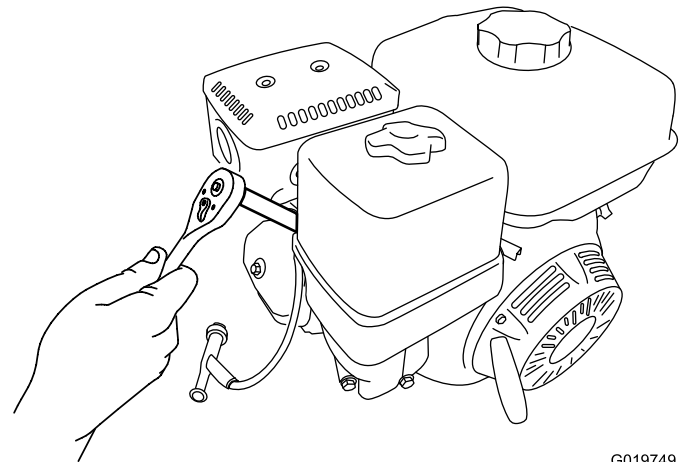

Figure 48
5. Rotate the spark plug counterclockwise using a 21 mm (13/16 inch) spark-plug wrench to remove the plug and the sealing washer (Figure 48).
2. Rotate the spark plug clockwise using a 21 mm (13/16 inch) spark-plug wrench until the plug and sealing washer are seated (Figure 48).